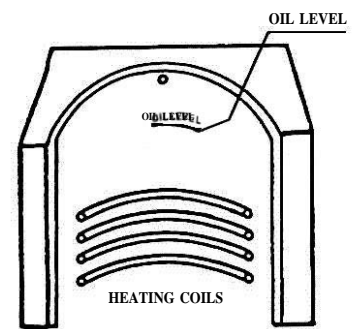

FIGURE 14
2. **CHECK OIL LEVEL** to see that it is at 'OIL LEVEL' line in cookpot (Fig.14)